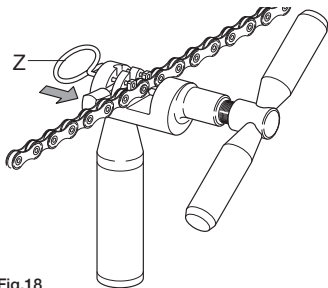

Fig.18
- Lock the link by means of the special locking device (Z - Fig. 18).